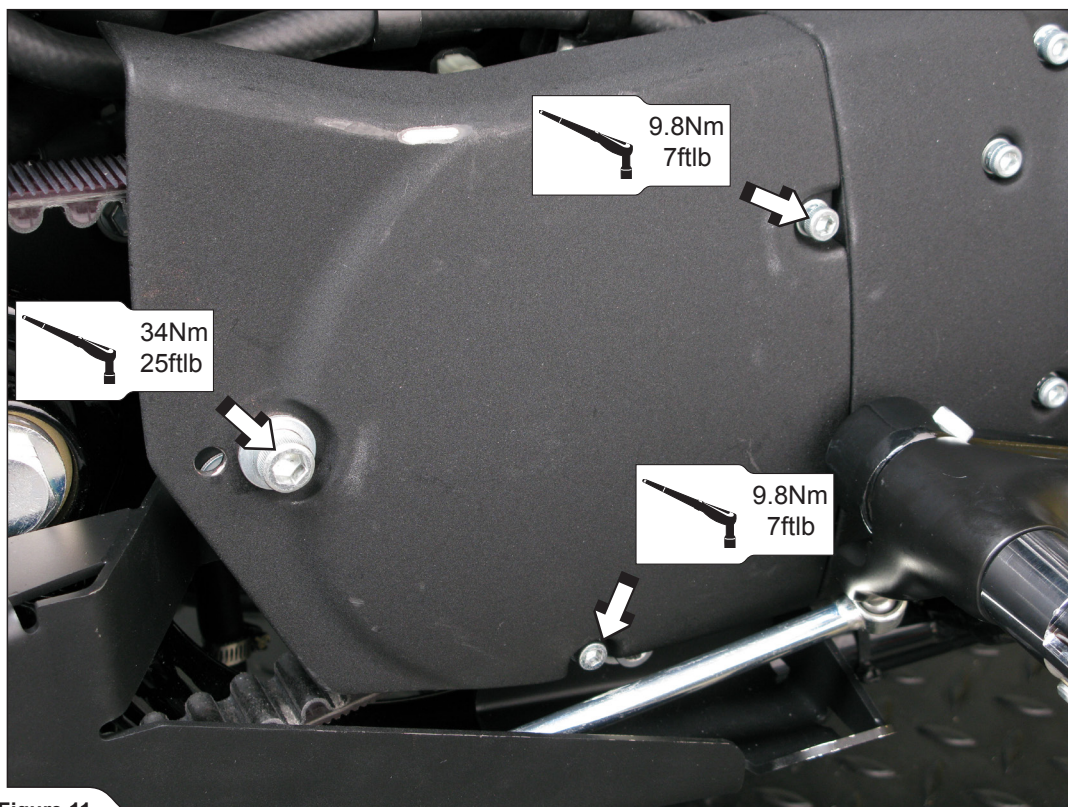

Figure 11
3. Reinstall the belt drive sprocket cover (Figure 11).